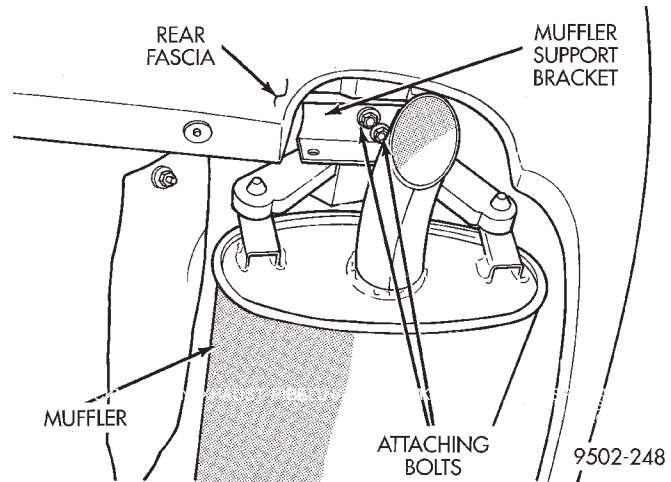
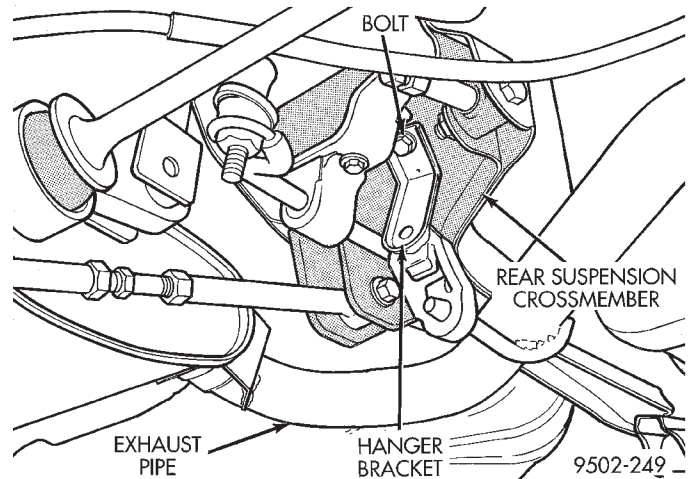
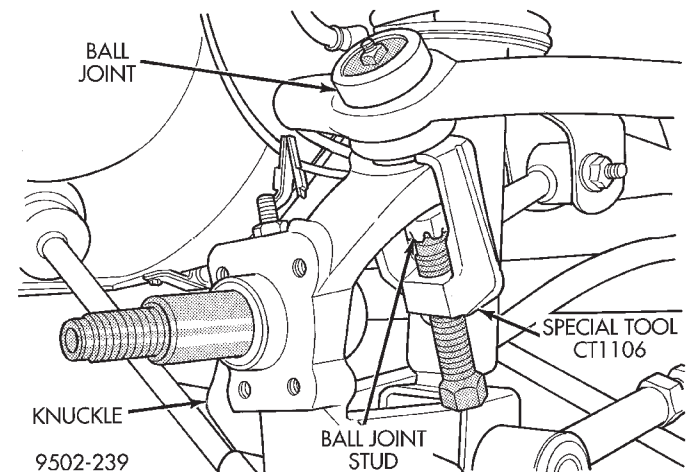

Fig. 22 Muffler Support Bracket
Fig. 23 Exhaust Pipe Hanger At Rear Suspension Crossmember
Fig. 24 Ball Joint Stud Removal From Knuckle
(4) Remove muffler support bracket from rear frame rail (Fig. 22).
(5) Remove the rear exhaust pipe hanger bracket from the rear suspension crossmember (Fig. 23). Let exhaust system drop down as far as possible.
(6) On only the side of the vehicle requiring control arm removal, separate the control arm ball joint from the rear knuckle using following procedure.
- Remove ball joint stud from knuckle using Puller, Special Tool, CT- 1106 (Fig. 24). When using puller, install castle nut on ball joint stud to protect threads from damage.
(7) Position a transmission jack and wooden block under the center of the rear suspension crossmember
(4) Install upper ball joint stud in knuckle. Install and tighten the ball joint stud castle nut to a torque of 85 N·m (63 ft. lbs.). Install cotter pin in ball joint stud.
(5) Remove transmission jack supporting rear suspension crossmember.
(6) Install muffler support bracket on rear frame rail (Fig. 22). Install rear exhaust pipe hanger on rear suspension crossmember (Fig. 23).